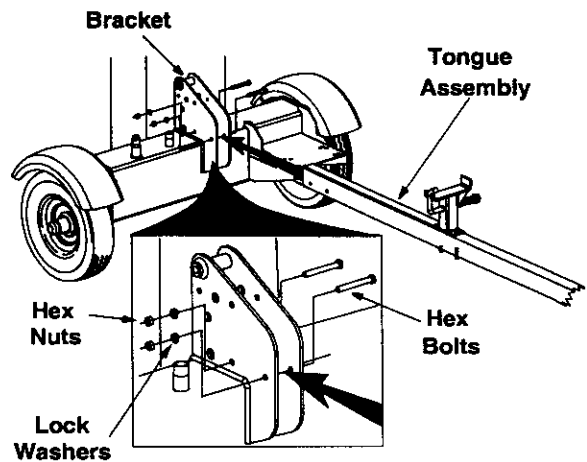

Figure 3
- Place the end of the tongue assembly in between the brackets on the wheel and the reservoir tank assembly. Secure with hardware removed earlier. See Figure 3.